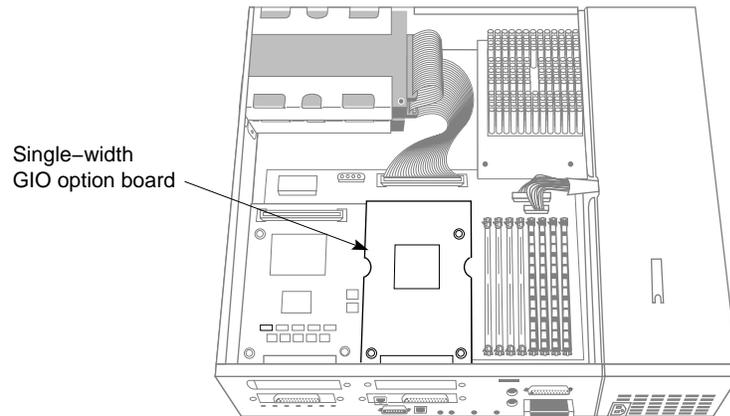

Figure 2-7 Locating the GIO Option Board
GIO option boards are installed on top of the IOPLUS board. A single-width GIO option board covers half of the IOPLUS; a double-width covers the entire IOPLUS. Figure 2-7 shows a single-width board.
1. Locate the GIO board, as shown in Figure 2-7.